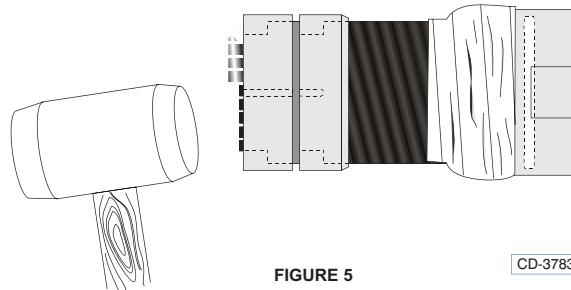

FIGURE 5
Step 7) Flatten tabs against the flare ring using a mallet (as shown in Figure 5). Use only enough force to flatten the tabs and **do not strike so hard as to reduce the thickness of the metal**. Trim any tab that protrudes past the outside of the groove in the flare ring. After the tabs are flattened and trimmed, tabs should be cleaned with solvent to remove any silicone grease. The face of the connector body which makes contact with the tabs should also be cleaned thoroughly so that no grease is present in the mating of the RF contact surfaces. Clean inside of the waveguide with a bottle brush.